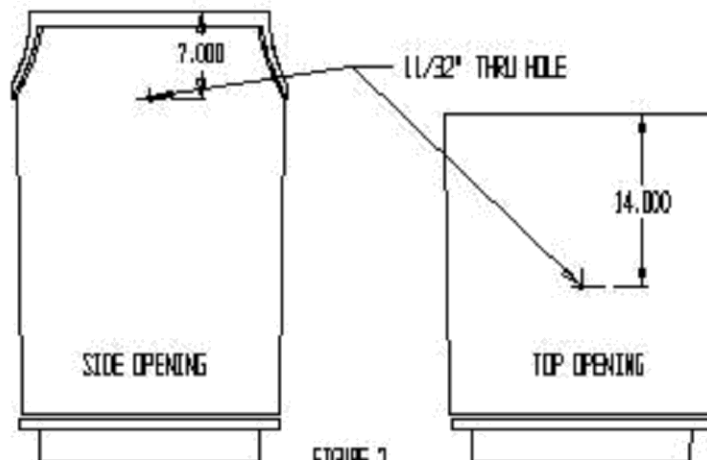

FIGURE 2
- 14" down from the rim of the body if the unit is a top opening. See figure 2.